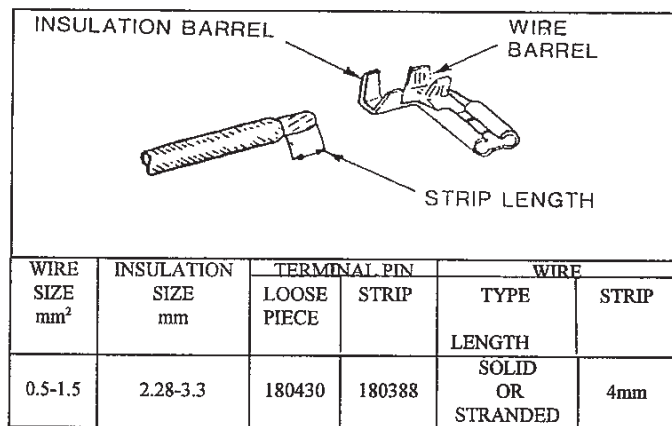

Figure 2
AMP* Hand Crimping Tool 180320 is designed to crimp Flag Faston and Flag Fastin Faston listed in Figure 2.
Refer to Figure 2 and select wire of the appropriate size and insulation diameter. Strip the wire to the dimension indicated, taking care not to nick or cut the conductors.
1. Crimp terminal as listed in Figure 2, using the correct wire size, according to Section 3, CRIMPING PROCEDURE.